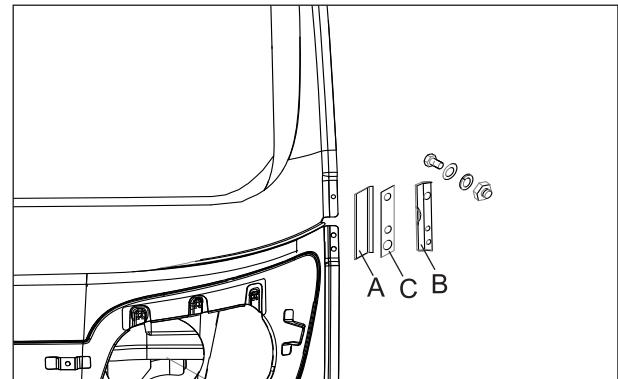

Fig. 9.2
- Assemble the bracket cowl windshield driver side (A) and bracket cowl windshield front side (B) along with rubber cushion cowl windshield (C) to the cowl windshield. (Fig. 9.2)
- Loosen and tighten the 3 nos. Hexagonal screw M6x20 along with 3 nos. Plain washer 3 nos. Wave spring washer and 3 nos. Hexagonal domed nut M6. (Fig. 9.2)